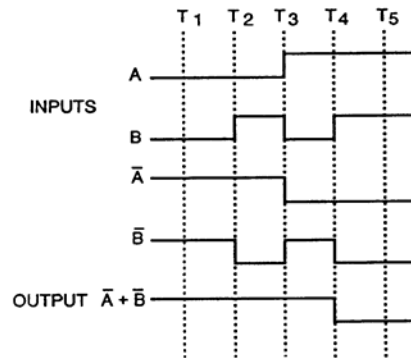
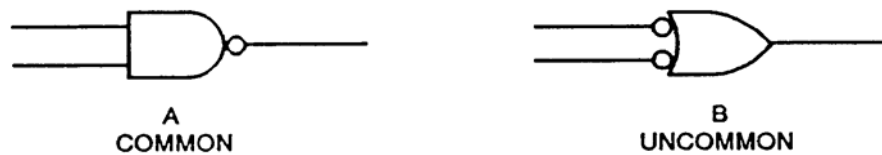

Figure Q-12. Waveform Analysis of NAND Gate
Figure Q-14. NAND Gate Symbol
(3) From the truth table, you can see that this combination of gates will satisfy the definition of a NAND gate. Waveform analysis will show the same fact as shown in Figure Q-12.
(5) Therefore, as shown in Figures Q-12 and Q-13, $\overline{A} + \overline{B} = \overline{AB}$. A typical NAND IC would have the symbol shown in Figure Q-14.